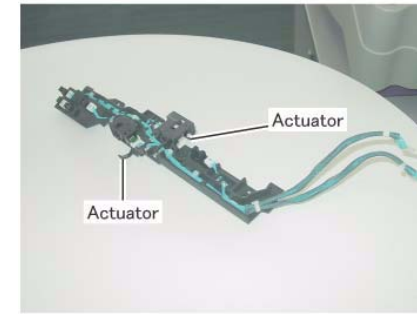

Figure 3 Locations of the removed Sensor Bracket and the actuators
7. The figure shows the locations of the removed Sensor Bracket and the actuator (x2). (Figure 3)